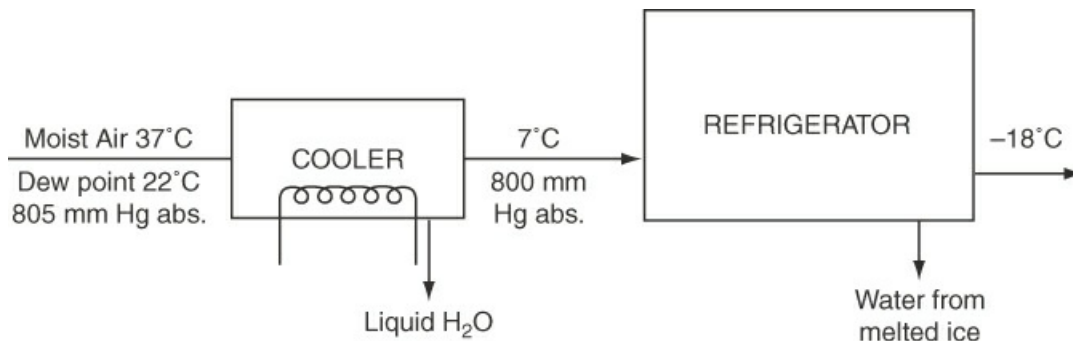

Figure P7.4.18
*****7.4.18** To prevent excessive ice formation on the cooling coils in a refrigerator room, moist air is partially dehydrated and cooled before passing it through the room (see Figure P7.4.18). The moist air from the cooler is passed into the refrigerator room at the rate of 20,000 ft³/24 hr measured at the entrance temperature and pressure. At the end of 30 days, the refrigerator room must be allowed to warm in order to remove the ice from the coils. How many pounds of water are removed from the refrigerator room when the ice on the coils in it melts?